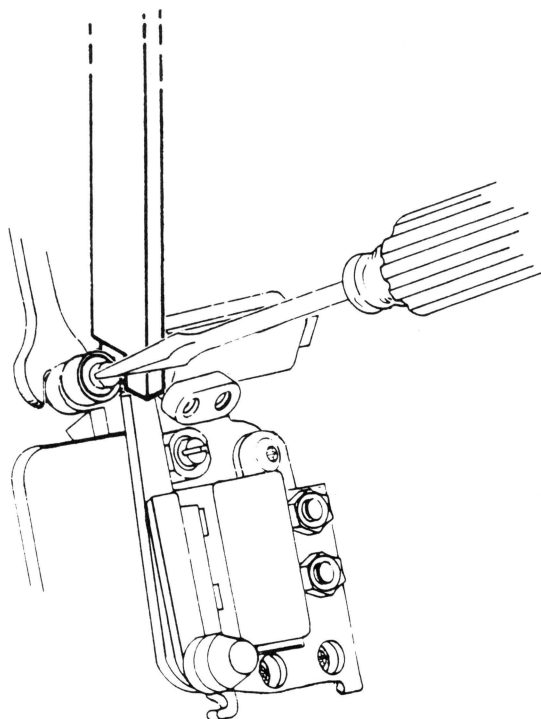

FIGURE 16
3. To adjust distance, use a 3/16 inch wrench and a screwdriver to loosen the rear eccentric lock nut (see Figure 16).